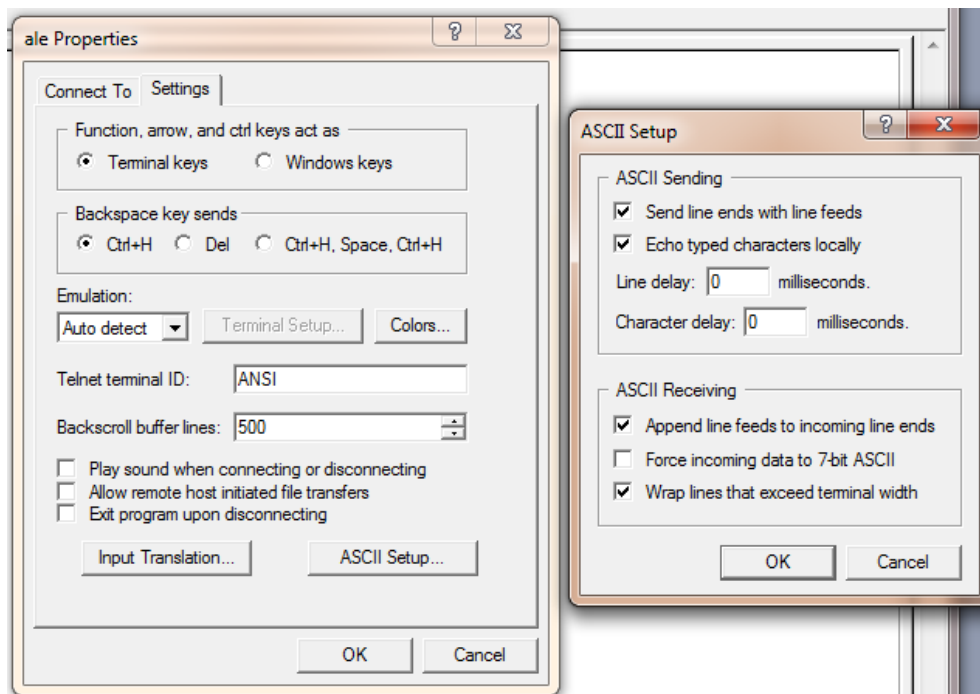

Figure 5
Step 4: Inside the terminal emulator use a COM port, set the communication protocol to 115,200 Baud, 8 Data bits, 1 Stop bit, no parity. Once opened, go to “properties”, “Settings” tab, ASCII Setup and make sure send line feeds, append line feed and echo are check as seen in Figure 5.